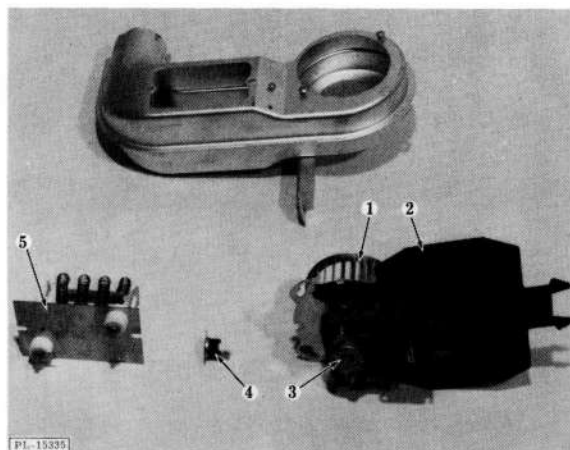

Fig. 28
B. Dryer Heating Element (5, Fig. 28)
Should the dryer heating element become inoperative first check to make sure voltage is reaching element (during dry period). If voltage is not reaching element, check for faulty energy saver switch. If voltage is reaching the element (thru thermal protector) (4, Fig. 28) next check continuity using an ohmmeter. If no continuity exists, replace element.
3. Remove the two retaining screws and lift out dryer heating element (5, Fig. 28).
C. Dryer Blower Unit (1 & 3 Fig. 28)
Should the dryer blower motor (3, Fig. 28) fail to operate, first check the voltage supply. Next make sure motor shaft is free. If motor remains inoperative, check motor winding continuity with ohmmeter. Replace motor if tests prove negative.
4. Loosen set screw and pull blower fan wheel (1, Fig. 28) from motor shaft.
5. At reassembly, make sure dryer blower motor cover (2, Fig. 28) is in place.